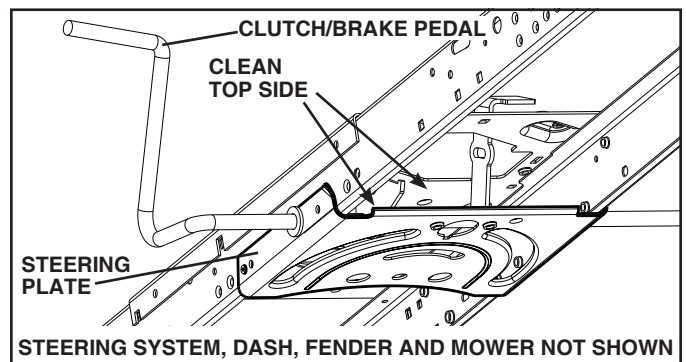

Fig. 33
- Clean debris from steering plate. Debris can restrict clutch/brake pedal shaft movement, causing belt slip and loss of drive. See Fig. 33.